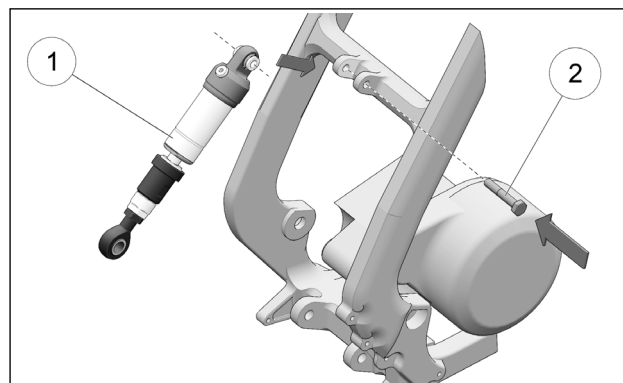

Figure 20
- Assemble Soft Strut (1) using the bike's shock absorber assembly bolt (2). See Figure 20
- Tighten shock assembly bolt (2) to manufacturer's recommended torque specification. Figure 20.